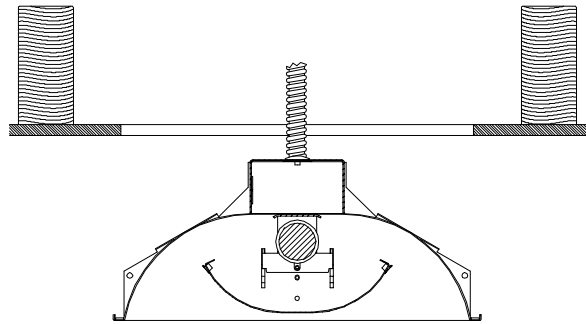

FIGURE 2
2. CONNECT POWER TO LUMINAIRE VIA ACCESS PLATE LOCATED ON TOP OF HOUSING. (SEE FIG. 2)